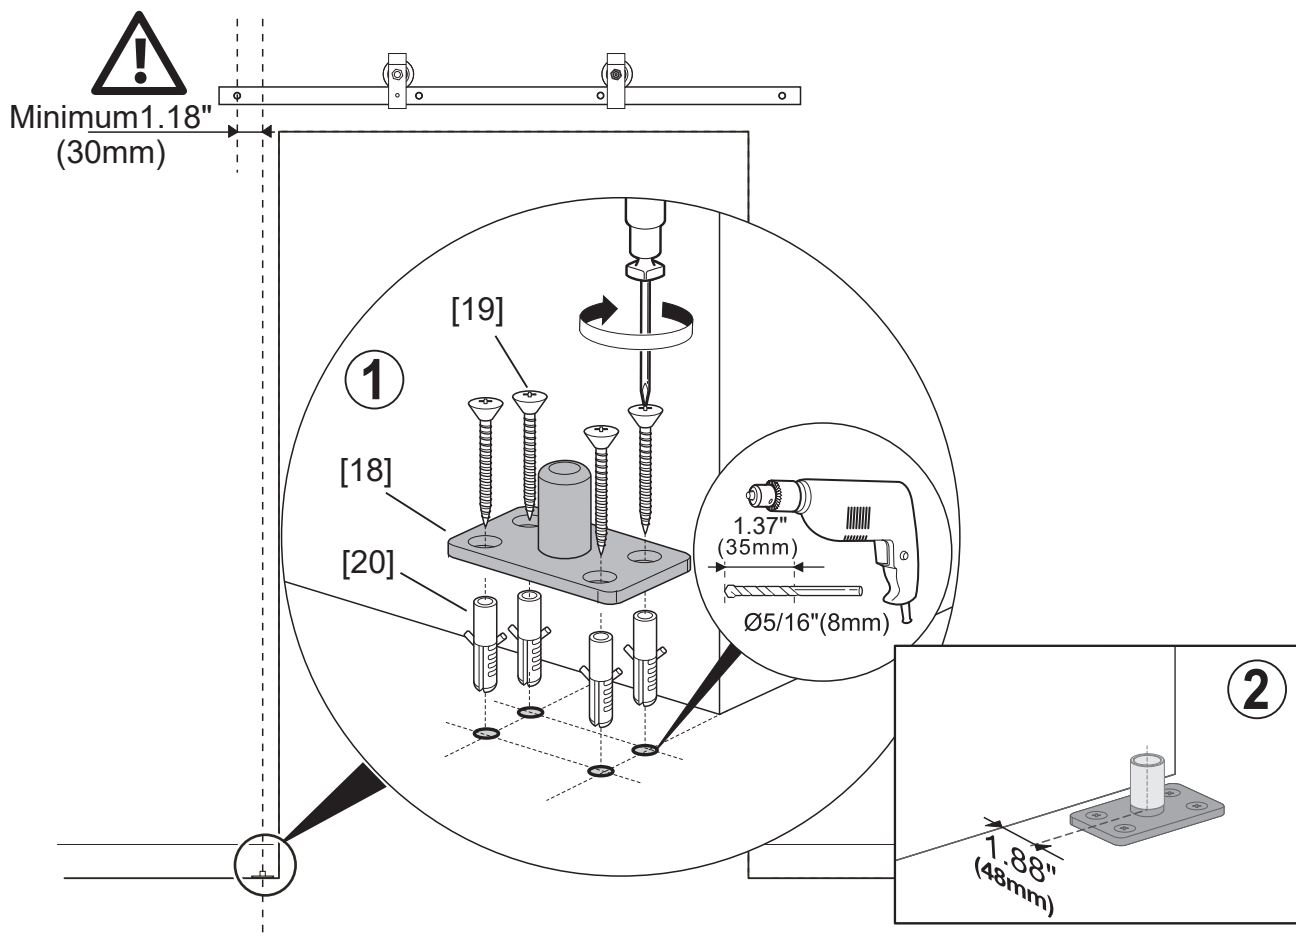

Fig 12
1. Measure **1.88"** from the wall and position the **Shaft [18]** close to one side of the opening. The longer edge of it parallel to the wall. The shorter edge of it align with the side of the opening. (Fig 12)